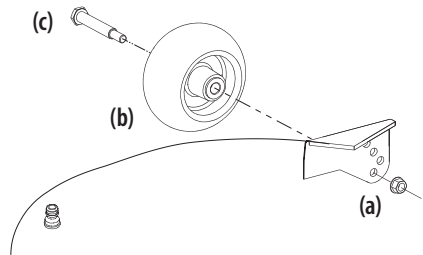

Figure 11
- Remove the lock nut (a), gauge wheel (b) and shoulder screw (c) from the deck. See Figure 11.